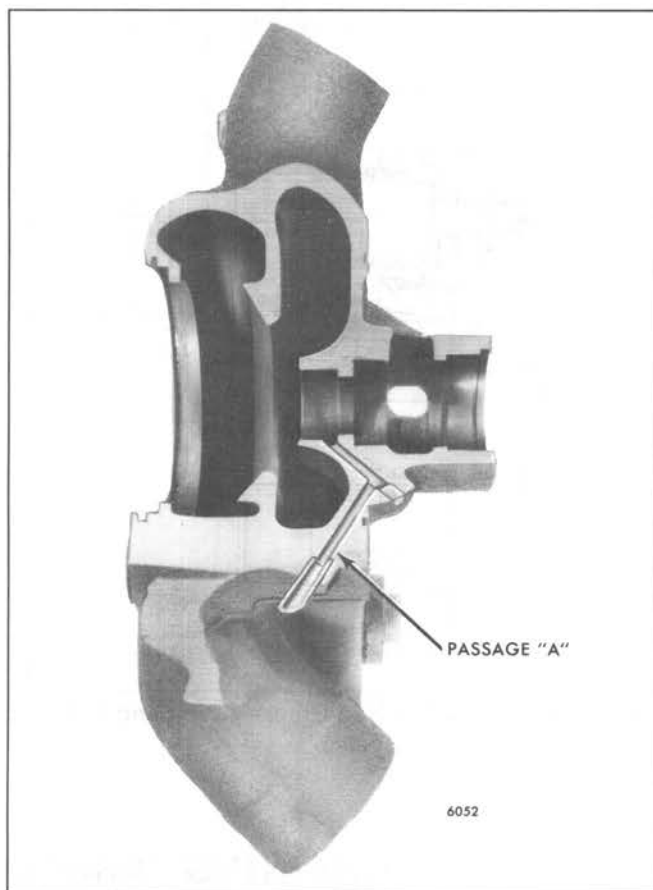

Fig. 3 - Water Pump Housing after Modification
7. Press a 5/16" O.D. x 1 1/4" long steel tube into passage A until it bottoms out (Fig. 3). Cut the tube at a 45° angle with the flat or short side of the tube positioned to the engine side, away from the air flow.
NOTICE: After the pump body has been completely reworked, inspect the area indicated by Arrow 1 (Fig. 3) for breakthrough. If the drill broke through, the body **should not** be used.